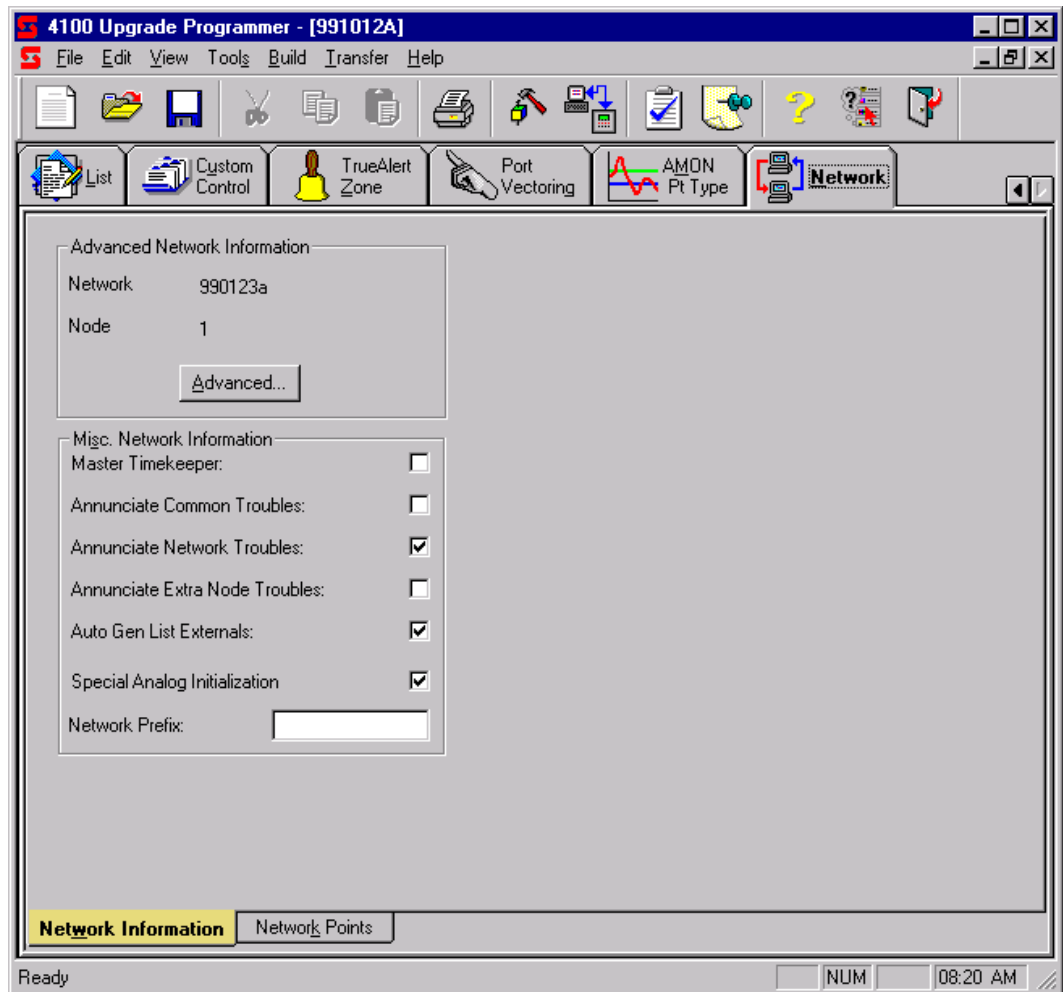

Figure 14-4. Network Tab, Showing Network Information
1. Click on the Network tab, shown in the upper right corner of Figure 14-4.